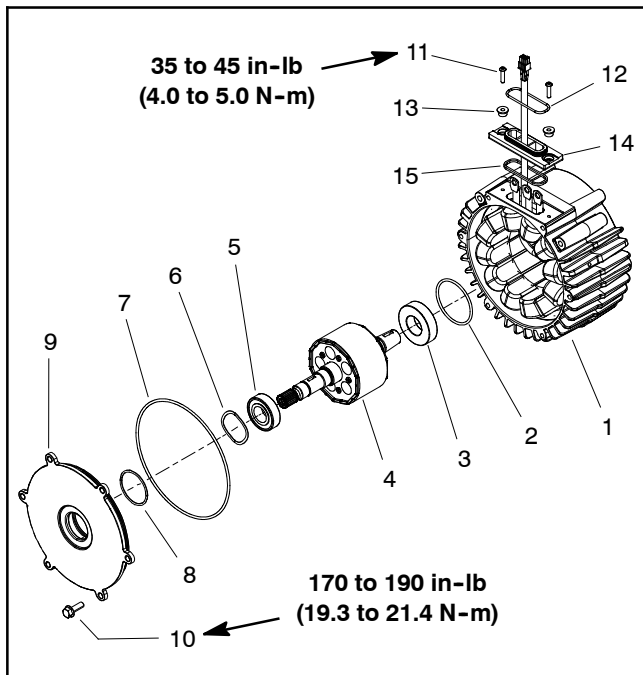

Figure 103
6. Remove nut (item 19) that secures fan to motor/generator shaft.
7. Remove motor/generator fan and two (2) spacers from motor/generator shaft. Locate and retrieve woodruff key.
8. Remove internal motor/generator assembly components (Fig. 103):
A. Remove six (6) flange head screws that secure cover to housing. Leave cover on rotor shaft.
2. Install internal motor/generator assembly components (Fig. 103):
C. Lubricate new O-ring (item 2) with dielectric lubricant (see Special Tools in this chapter) and install into groove in housing bearing bore.